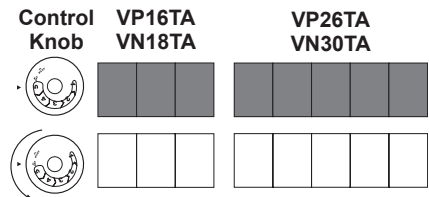

Figure 25 - Burner Patterns
8. Turn thermostat control knob counter-clockwise to the desired heating level. For models, VP16TA, VN18TA, VP26TA and VN30TA, the main burner should light. Set control knob to any heat level between 1 and 5 (see Figure 25). For infrastat models, the plaque directly above the pilot should light.